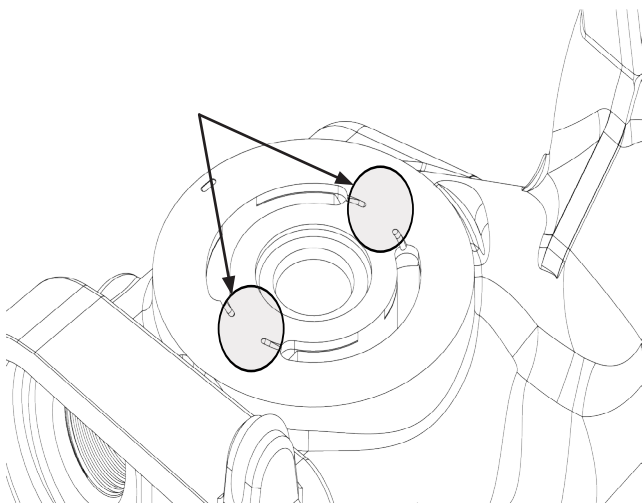

Figure 28, Pump Block Running Surface
Inspect the running surfaces on the pump block, motor block, and both running faces on the center section. Note: The pump face on the center section has machined groves as seen in Figure 28. These are not defects.
5. Mark a point on the new nut and hub per Figure 28. (Point A)
6. Measure 2 nut flats or 120° per Figure 28 and mark hub. (Point B)